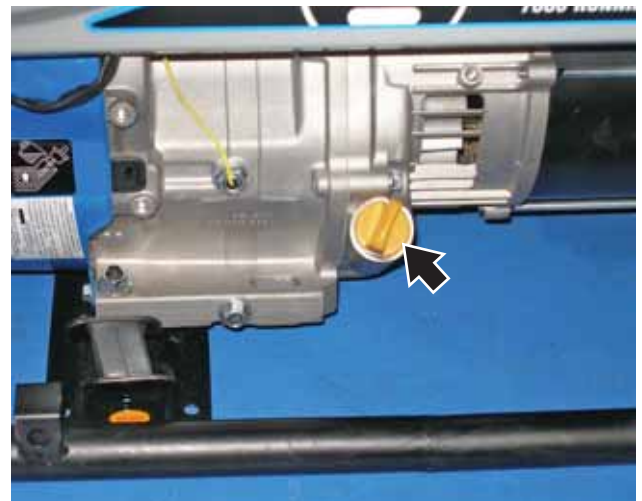

Figure 7-3 – Oil Fill Plug/Dipstick
5. Remove oil fill plug/dipstick (see Figure 7-3).